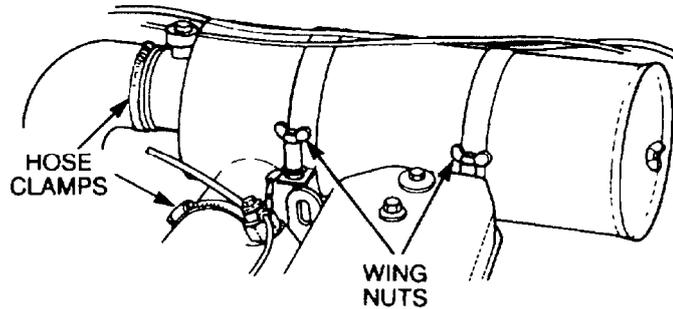

Figure 4 Air Cleaner
- m. Remove the hose clamps securing the air inlet and outlet hoses to the air cleaner housing and disconnect the hoses. Remove the wing nuts from the clamp bolts and carefully lift the air cleaner out of the mounting bracket (Figure 4).